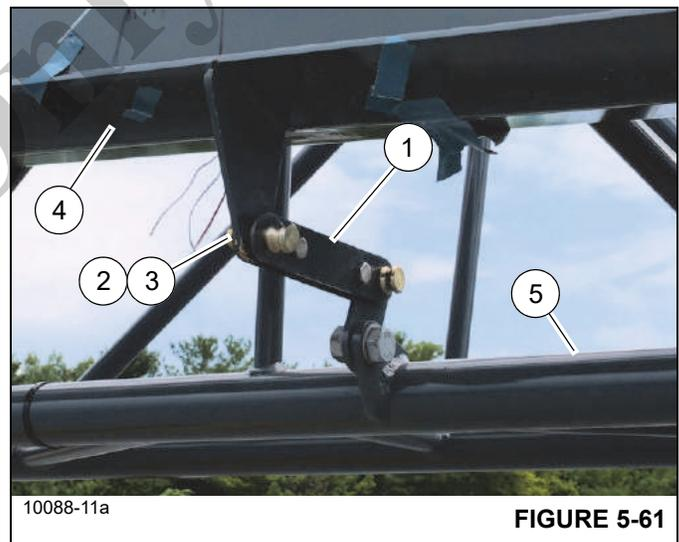

FIGURE 5-61
8. Attach the fly section (4, Figure 5-61) to the boom extension base section (5) using the connecting link (1). Secure connecting link with pin (3) and retaining clip (2).
8. Detach the fly section from the boom extension base section by removing the retaining clip (2, Figure 5-61) and pin (3) securing the connecting link (1) to the boom extension fly section (4).